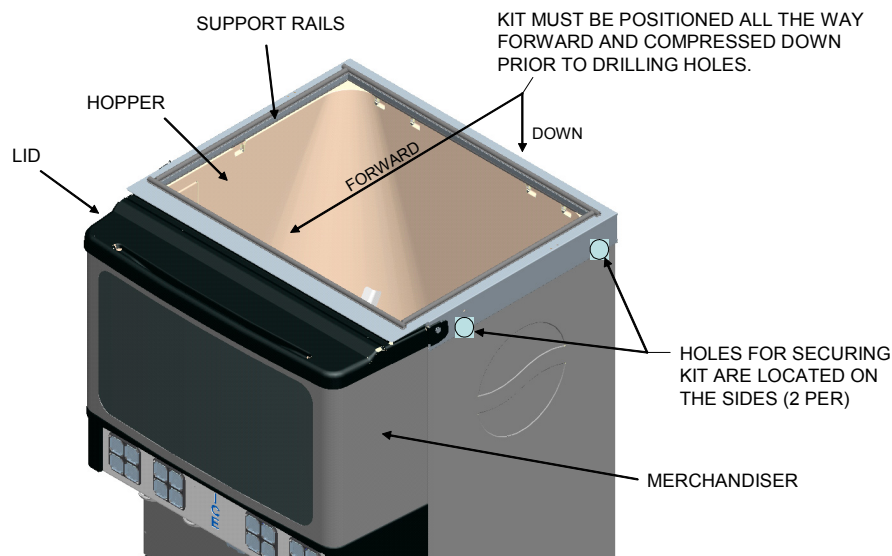

Figure 3
4. Using the four holes in the adapter cover as templates, drill 9/64" (.140" Dia.) holes in the sides of the dispenser (2 holes per side). **USE EXTREME CAUTION NOT TO DRILL INTO ANY OTHER COMPONENTS.** Maximum drill depth from the face of the kit should not exceed 3/8" (just enough to go through the material being drilled). Remember, the kit should be all the way forward and compressed down before drilling the holes. Otherwise, undesirable gaps may result (lid to merchandiser) and the internal latch feature for the lid may not function properly. After holes are drilled, secure the kit to the machine using the screws provided (refer to Figure 3).